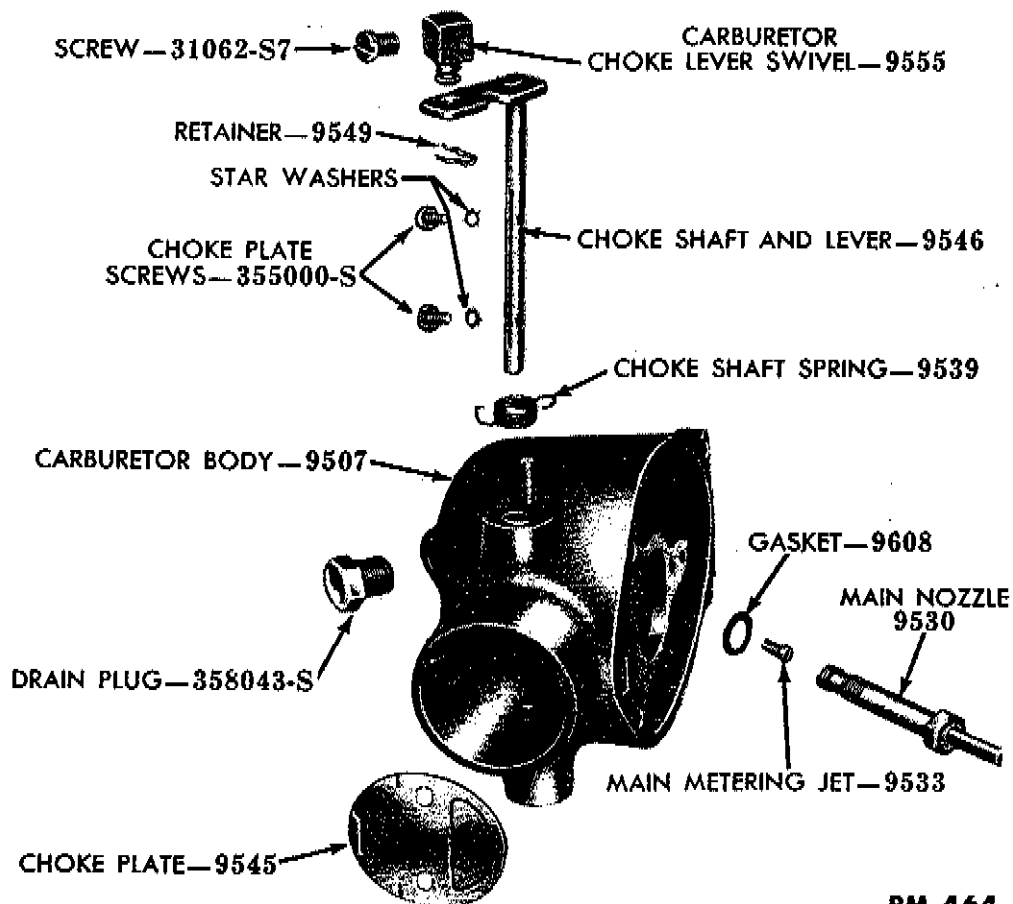

Figure 19—Carburetor Body, Disassembled
c. **Disassemble Carburetor Body.** Remove the main metering jet (fig. 19) with a screw driver or jet wrench. Remove the two screws and lock washers that secure the choke plate in the choke lever and shaft. Pull the choke plate out of the shaft with a pair of pliers. Remove the choke shaft and lever and choke return spring from the carburetor body.
d. **Choke Shaft and Lever.** Replace the choke shaft and lever (fig. 19) if the shaft is worn or bent, if the threads are stripped, or if the lever is damaged or loose on the shaft.
e. **Choke Plate.** Replace the choke plate (fig. 19) if the poppet valve spring is weak and will not hold the poppet valve closed. Replace the choke plate if the plate or poppet valve is bent or damaged.
h. Main Nozzle. Replace the main nozzle (fig. 19) if it is bent, or if the threads are stripped.
k. Choke Shaft Spring. Replace the choke shaft spring (fig. 19) if it is broken or weak.
a. **Assemble Carburetor Body.** Place the choke return spring on the choke shaft and lever. Install new felt seals on the lever end of the choke shaft. Install the choke shaft and spring in the carburetor body. Hook the choke return spring on the peg on the body and on the lever so that the choke shaft lever will rest on the peg. Install the choke plate in the choke shaft. While holding the choke plate in the closed position, install and tighten the two choke plate screws and washers. Install the maximum fuel limiting jet in the carburetor body (fig. 19) with a small screw driver or jet wrench. Install the main nozzle and new gasket.